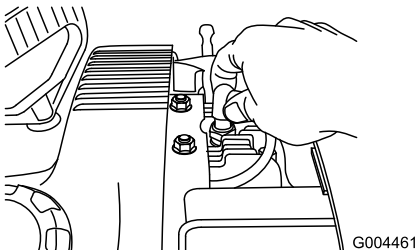

Figure 46
4. Separate the front engine cover from the rear engine cover and disconnect the wire from the spark plug (Figure 46).